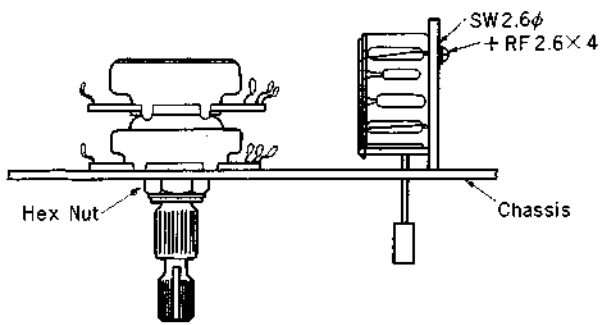

Fig. 2-5 Detail of Volume Control and Loudness Switch
- (d) Remove the volume control and loudness switch by loosening off the hexnut and screw securing the switch to the bracket. See Fig. 2-5.